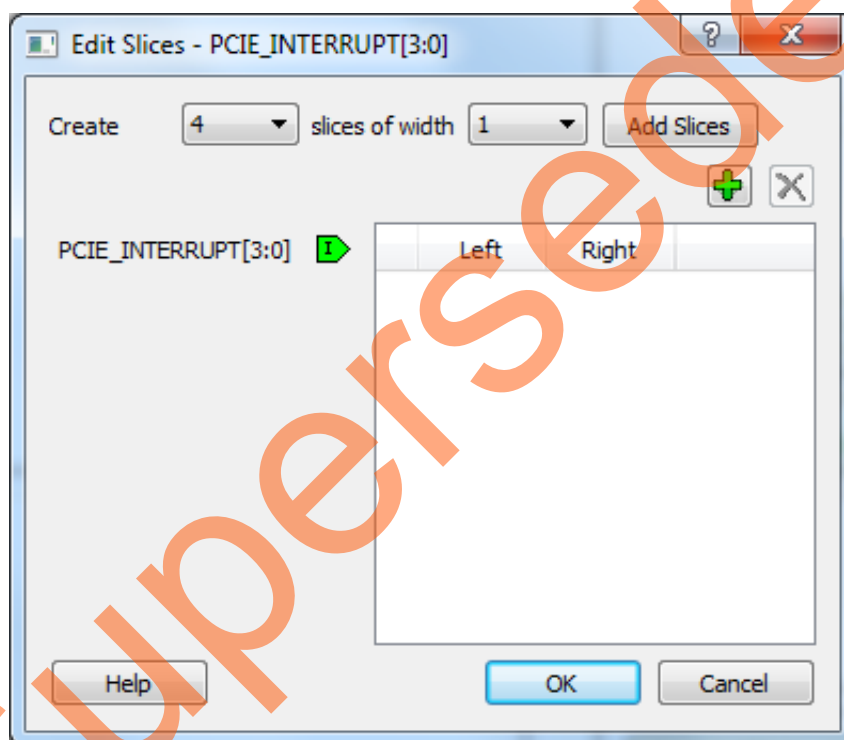

Figure 30 • Edit Slices
28. The PCIe supports four interrupts. This design uses only one interrupt out of four by connecting the unused interrupts to logic '0'. To connect the unused interrupt pins to logic '0', split the interrupt pins to two groups. To do that, right-click the **PCIE_INTERRUPT[3:0]** of **SERDES_IF_0** and select **Edit Slice**. The **Edit Slice** window is displayed as in Figure 30.